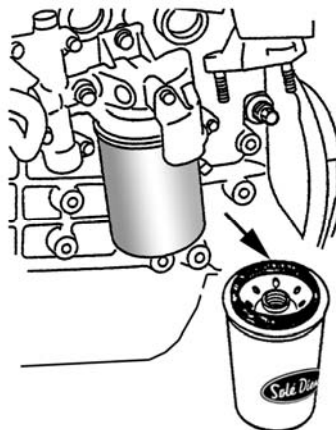

Fig. 7.1
### (2) Change oil filter (Fig. 7.1):